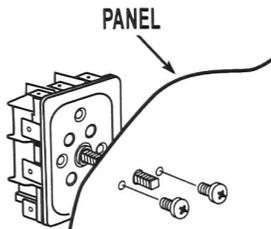

FIGURE 1
3. Determine mounting type, screw (figure 1) or nut (figure 2), and mount switch accordingly. The switch may be mounted in any orientation except as shown in figure 3 when used on a vertical mounting panel.